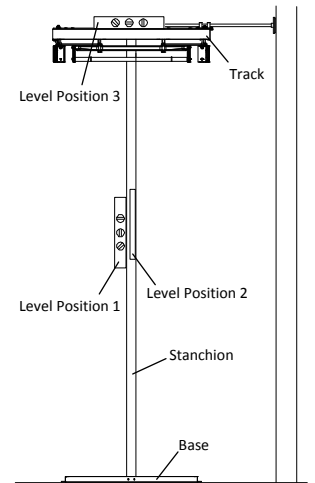

Figure 7
- d. Place level in position 1 (see Figure 7) and tilt carousel side-to-side until level reads plumb. Move brace wall plates to contact wall and tighten Allen setscrews.